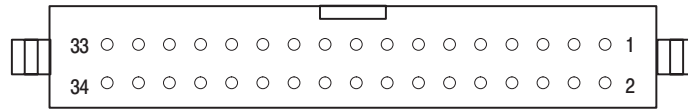

Figure 4-46: P4116 Output Connector
- b. Connect CH1 DIGITAL DATA OUT. The CLOCK pin (Pin 1) goes through the pin-header SMB cable to the oscilloscope CH1. See Figure 4-46 and Table 4-4.